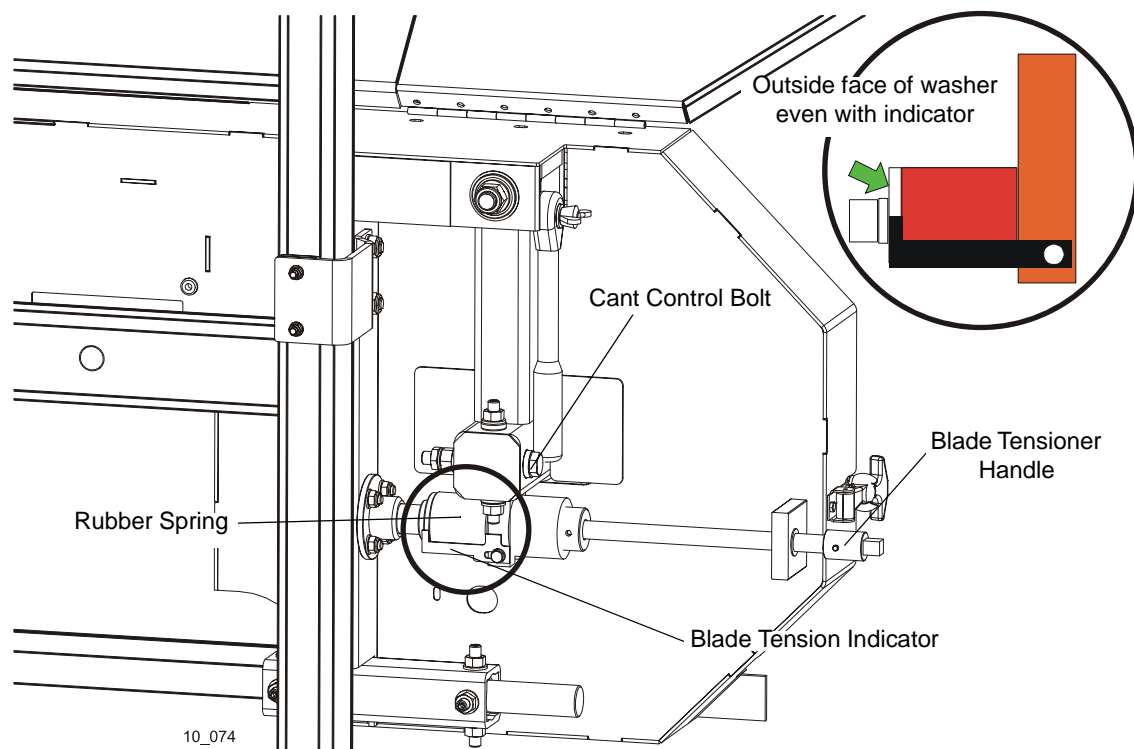

FIG. 3-7
**See Figure 3-7.** Turn the blade tension handle clockwise to compress the rubber spring and tension the blade. Check the blade tension occasionally when adjusting the cant control or while cutting. As the blade and belts heat up and stretch, the blade tension will change. Adjust the tension handle as necessary to keep the bushing aligned with the indicator.